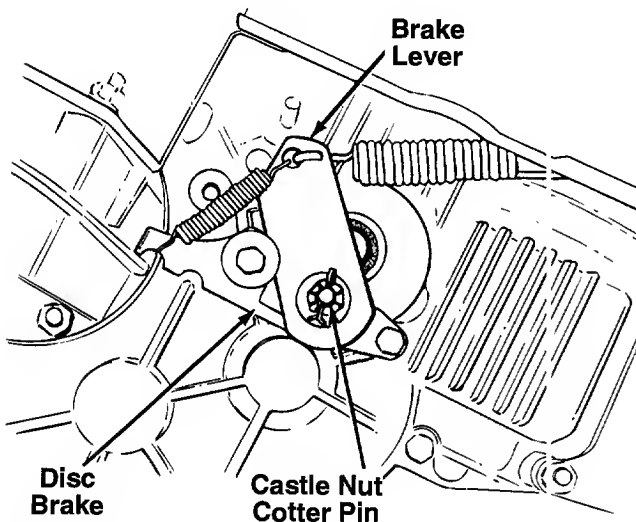

FIGURE 23.
## BRAKE ADJUSTMENT (See figure 23)
**NOTE:** Figure 23 is shown with the unit tipped up on rear wheels for clarity only.